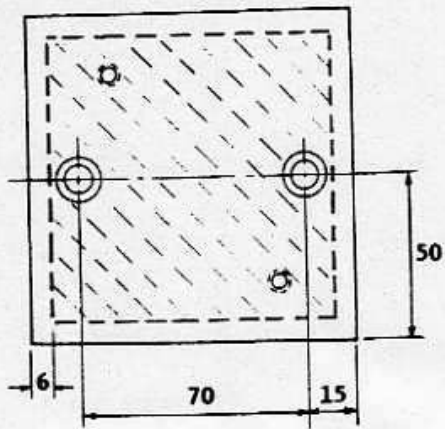

FIG.2 Drivers Junction Box mounting plate fixing details.
10.6.3. Using emery paper, remove paint gloss from shaded area shown in Fig. 2.